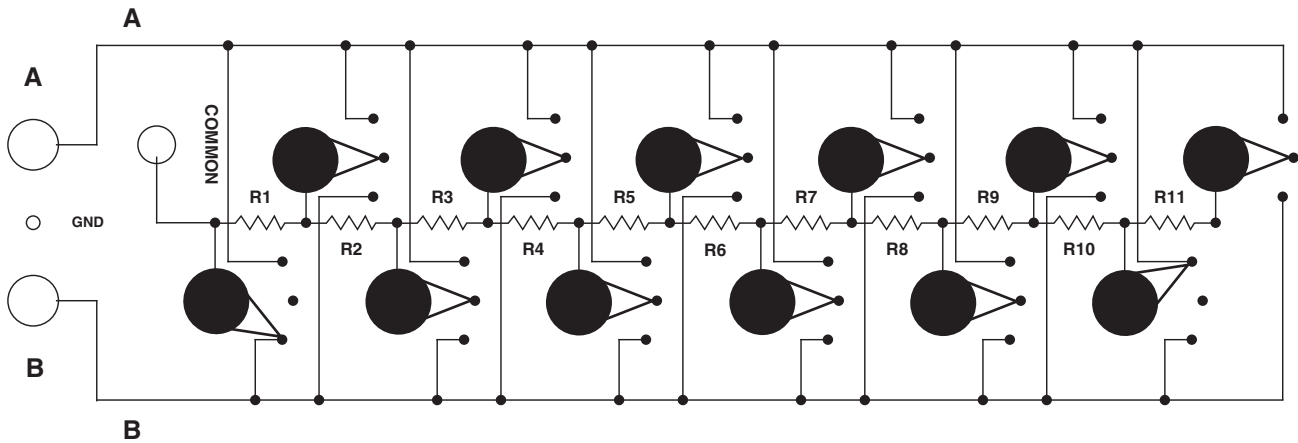

Figure 4-6: Resistance = $10R$: ten resistors in series
- For a composite value of $10R$, see Figure 4-6.